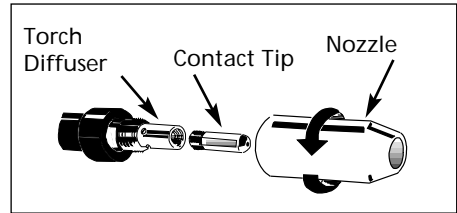

Figure 6 - Torch Nozzle
7. Remove the nozzle by turning counterclockwise. Then, unscrew the contact tip from the end of the welding torch. (See Figure 6). Plug the welder into the proper power supply receptacle.
9. Carefully slip the contact tip over the wire and screw it into the torch diffuser. (See Figure 6.) Install the nozzle by twisting clockwise. Cut the wire off approximately 1/4 inch from the end of the nozzle.